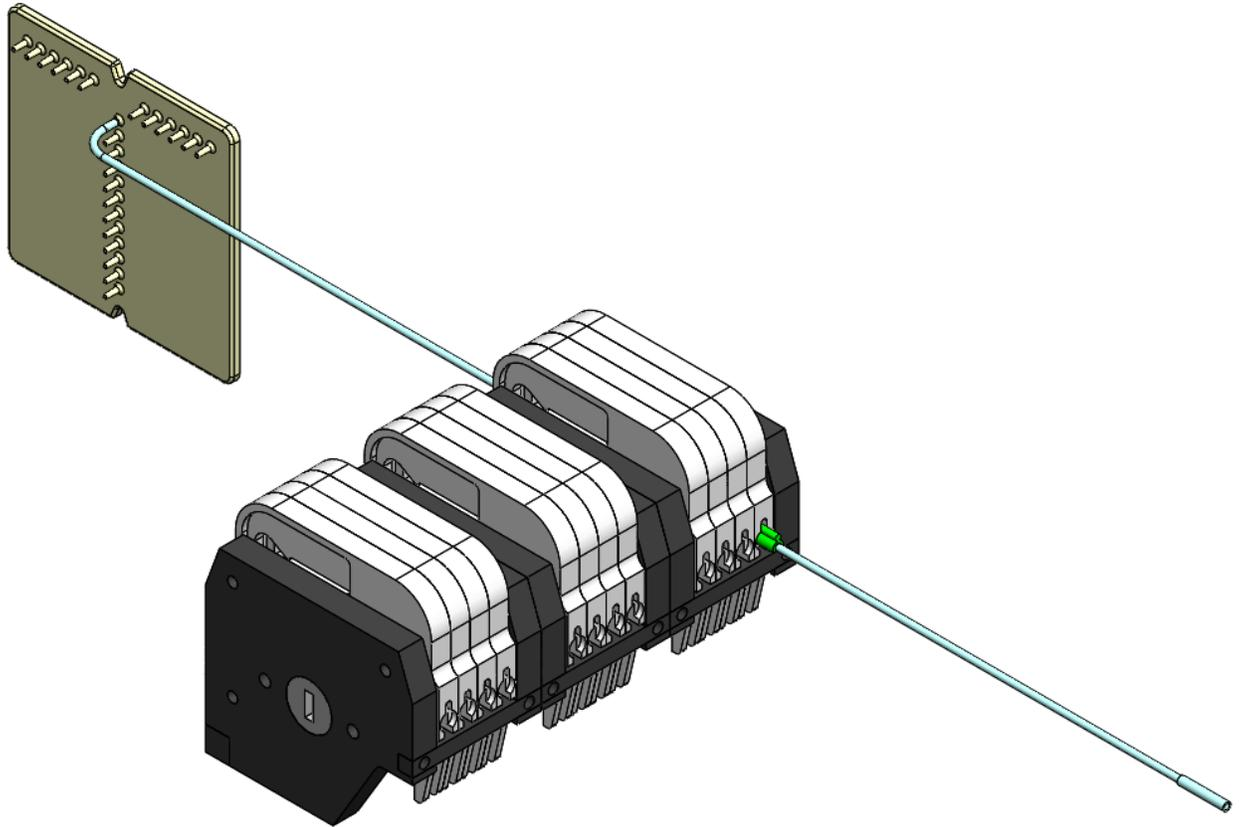

Figure 8. Microbore tubing mounted on pump position # 1 (Clamped Cassette)
5. Mount the tubing as indicated in Figure 8 to a pump cassette and clamp it to pump position # 1 (Pump position # 1 is the position closest to the body of the instrument).